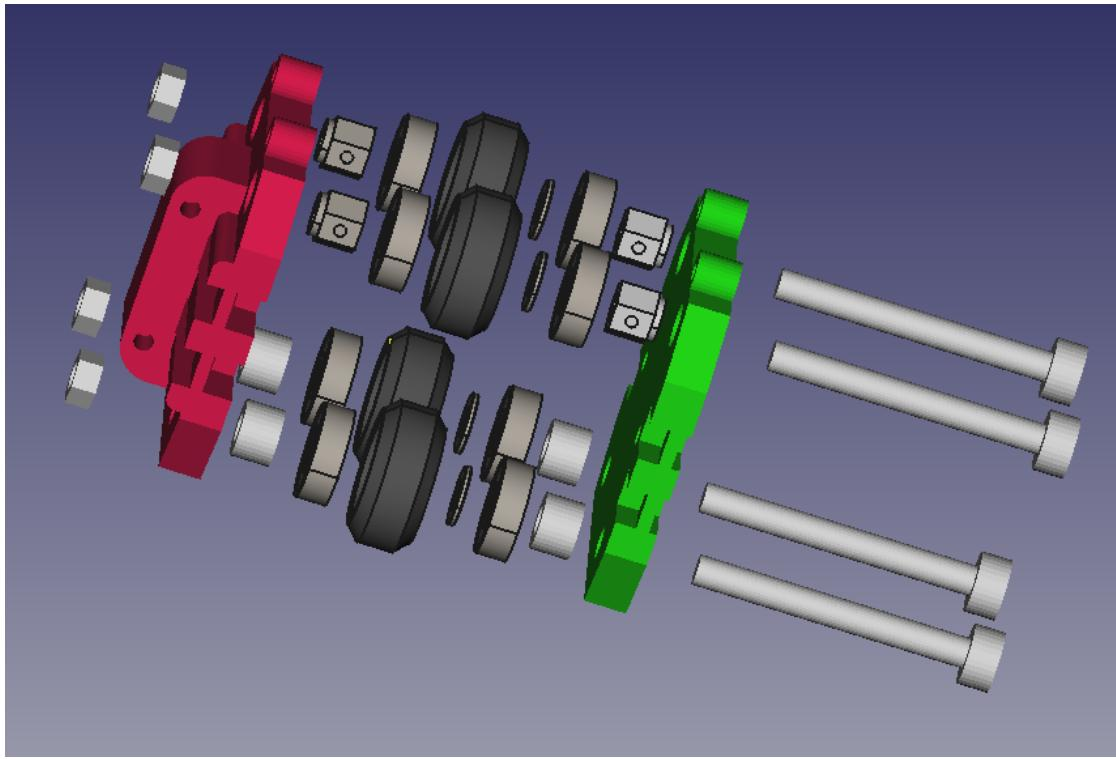

Figure 15: Exploded view of x-carriage
2. The top wheels will have an eccentric spacer on each side of the wheel, and the bottom wheels will have a aluminium spacer on each side of the wheel. See Figure 15.